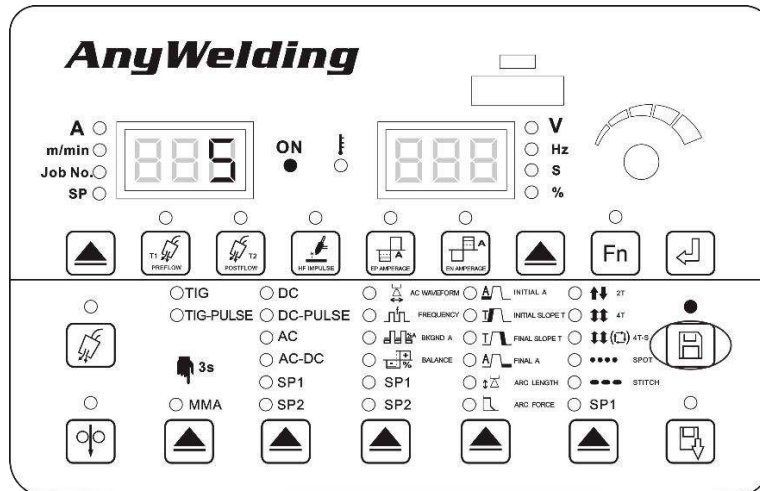

Figure 6-2 Save settings interface
2. Select JOB number(0~49)with the panel knob and press the"enter"key to confirm,as shown in Figure 6-2.